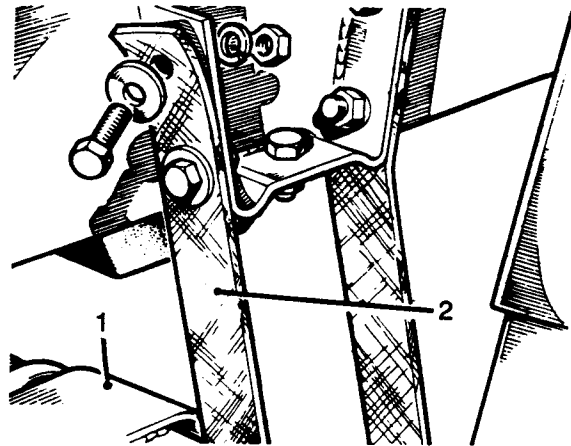

Fig J1.7
- (8) Refer to Fig J1.7. Support the axle, using a jack (1).
- (9) Disconnect one end of each axle check strap (2).